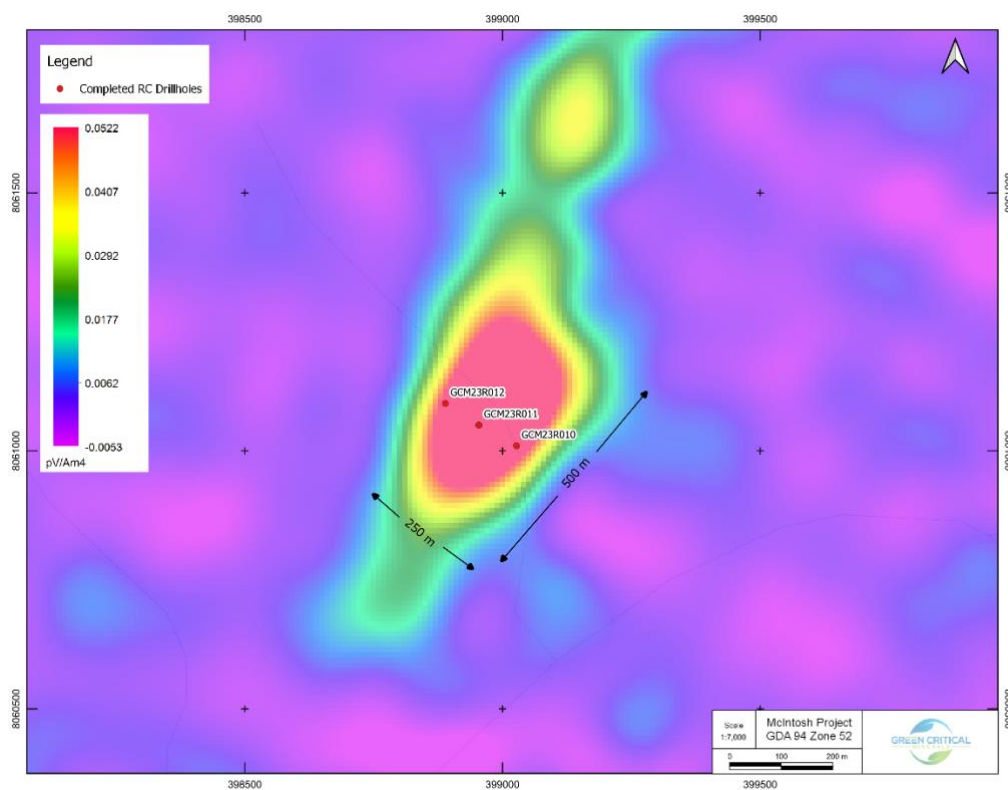

Figure 3 – Sturgeon Target showing the location of recently completed RC drillholes and the coincident 2017 Xcite Geophysical Survey EM anomaly.
**Figure 1** shows the first three (3) holes drilled on a section at the southern end of the Sturgeon Exploration Target (refer to plan view of collars on **Figure 3**). Hole GCM23R011 drilled through **96m** of graphitic schist. The true width of the overall graphitic schist package here is interpreted to be about **150m wide**.